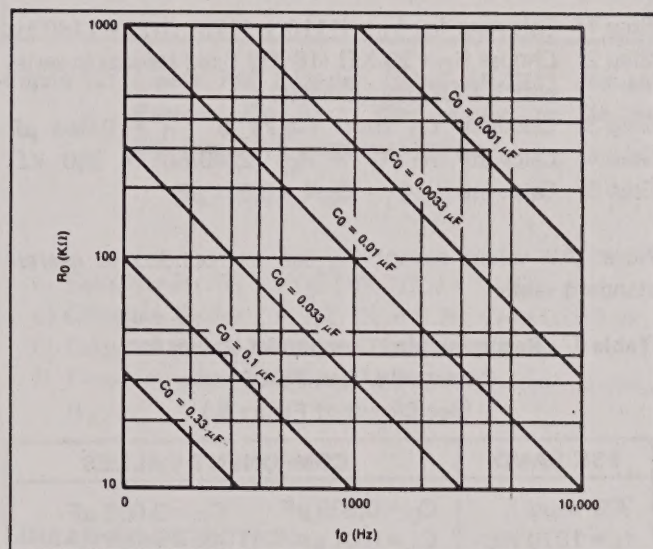

Figure 6: VCO Frequency vs Timing Capacitor
c) Calculate value of  $C_0$  from design equation (1) or from Figure 6:
Step 3: Calculate  $C_0$  from Figure 6:  $C_0 = 0.044$   $\mu$ F
- Calculate  $C_0$  to set center frequency,  $f_0$  equal to  $f_S$  (see Figure 6):  $C_0 = 1/R_0 f_S$
- Choose  $C_0$  for  $f_0 = 1$  kHz (from Figure 6):  $C_0 = 0.05$   $\mu F$ .